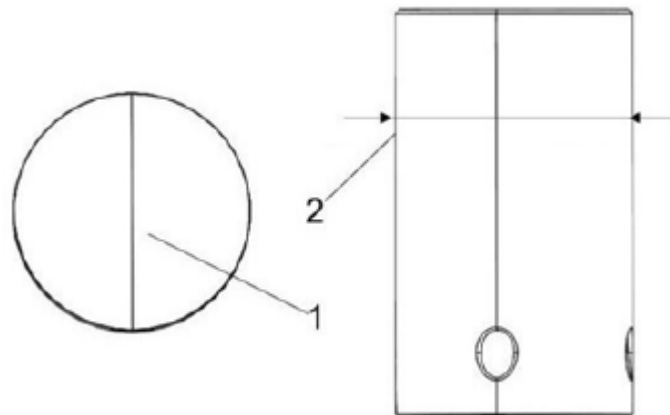

Figure 113.
1. Inspect the tappet contact surfaces for abnormal wear (Figure 113, Item 1).
2. Measure the outside diameter of the tappet stem (Figure 113, Item 2). See the *Mechanical Specifications chart* for the service limit.